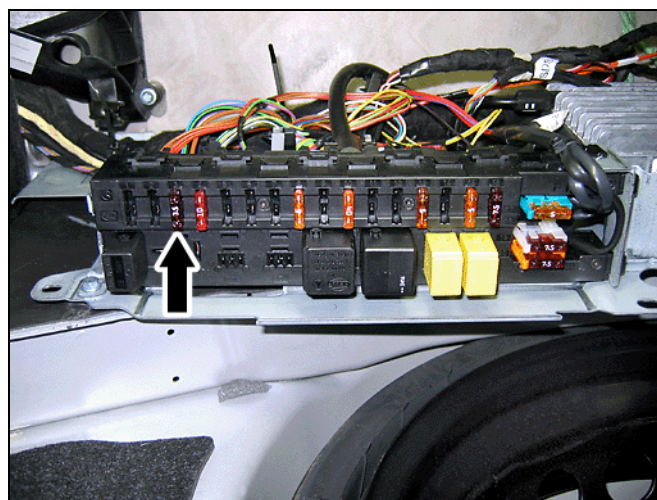

**Figure 28**
14. Reinstall the false floor with mounted contact plate (Figure 28) with the previously removed four T8 Torx screws.